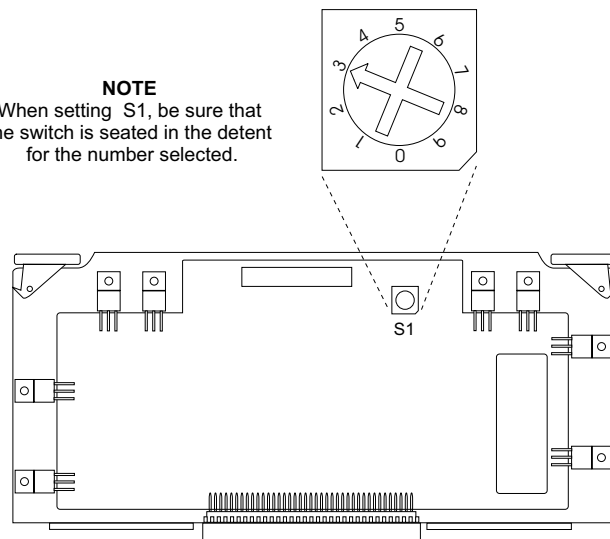

Figure 6-4. Switch S1 Location on the A14 PCB
- Step 6** Set switch S1 (Figure 6-4) to the correct setting for the 69XXXB model in which the A14 PCB is being installed (see Table 6-1).
This paragraph provides instructions for removing and replacing the fan assembly, which is located on the rear panel assembly (see Figure 6-4).